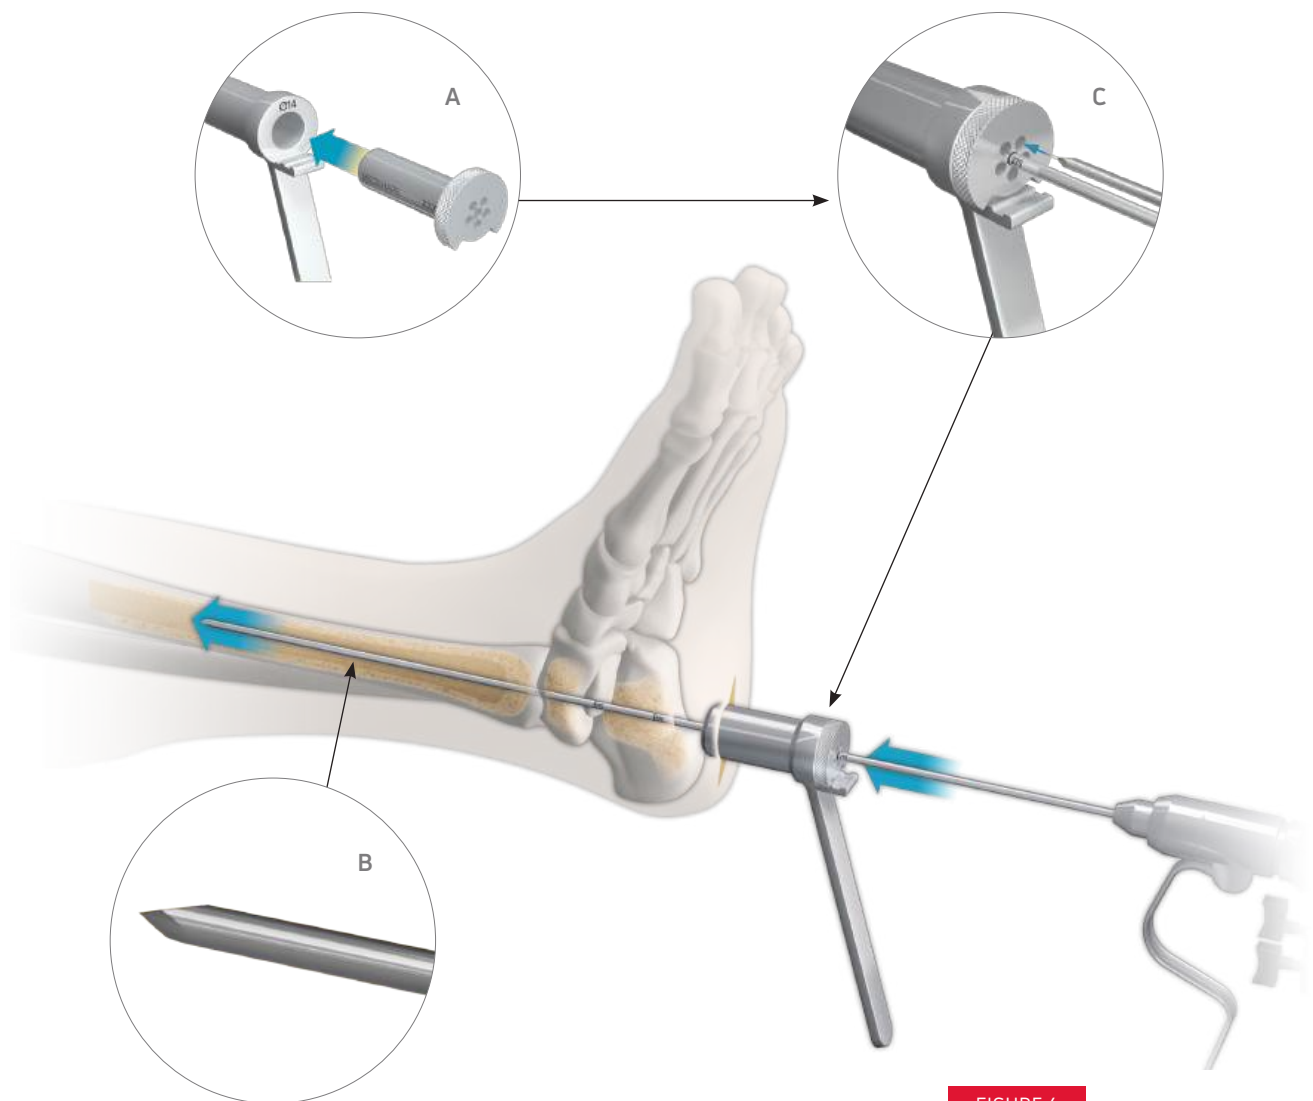

FIGURE 4
1. Trocar-Tipped Guidewire (9)
2. 14 mm Protection Sleeve (3)
3. 3.3 mm Protection Sleeve (2)
Assemble the 3.3 mm and 14 mm Protection Sleeves (A). Place the Protection Sleeve Assembly against the plantar surface of the calcaneus. Insert the Trocar-Tipped Guidewire (B) into the central hole of the 3.3 mm Protection Sleeve, taking care that the Guidewire tip is contacting the inferior aspect of the calcaneus. Drill the Guidewire through the calcaneus and talus into the tibial medullary canal (FIGURE 4). With the Protection Sleeve abutted against the bone, confirm proper depth has been reached by reading the lasermarks off the back of the 3.3 mm Protection Sleeve (C). If not satisfied with the initial Guidewire placement, a second Guidewire may be inserted through one of the adjacent holes in the 3.3 mm Protection Sleeve. When satisfied with the Guidewire placement, remove the 3.3 mm Protection Sleeve, leaving the Trocar-Tipped Guidewire in place.